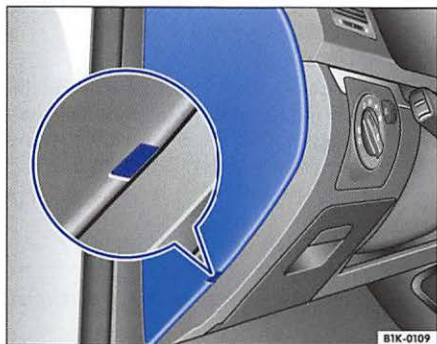

Fig. 32 Instrument panel, left: cover of fuse box A
- Insert the flat blade of a screwdriver into the opening of the fuse box cover ⇒ fig. 32.